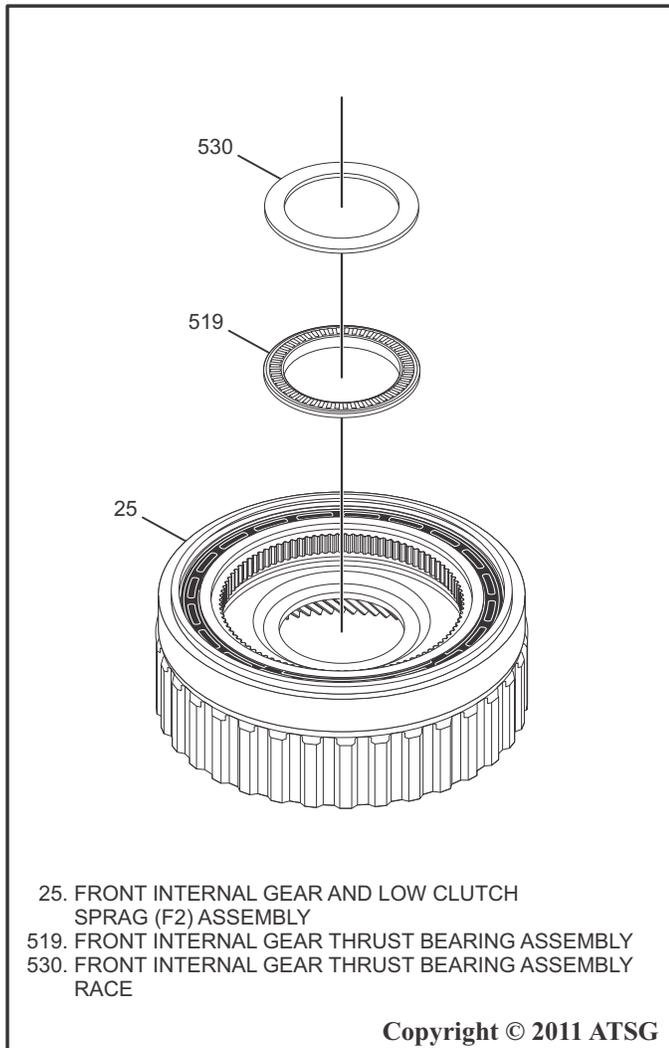

Figure 145
10. Coat the Front Internal Gear Thrust Bearing Assembly with a small amount of Trans-Jel® and place it onto the Front Internal Gear and Low Clutch Sprag (F2) Assembly as shown in Figure 145.
11. Coat the Front Internal Gear Thrust Bearing Race with a small amount of Trans-Jel® and place it onto the Front Internal Gear and Low Clutch Sprag (F2) Assembly as shown in Figure 145.